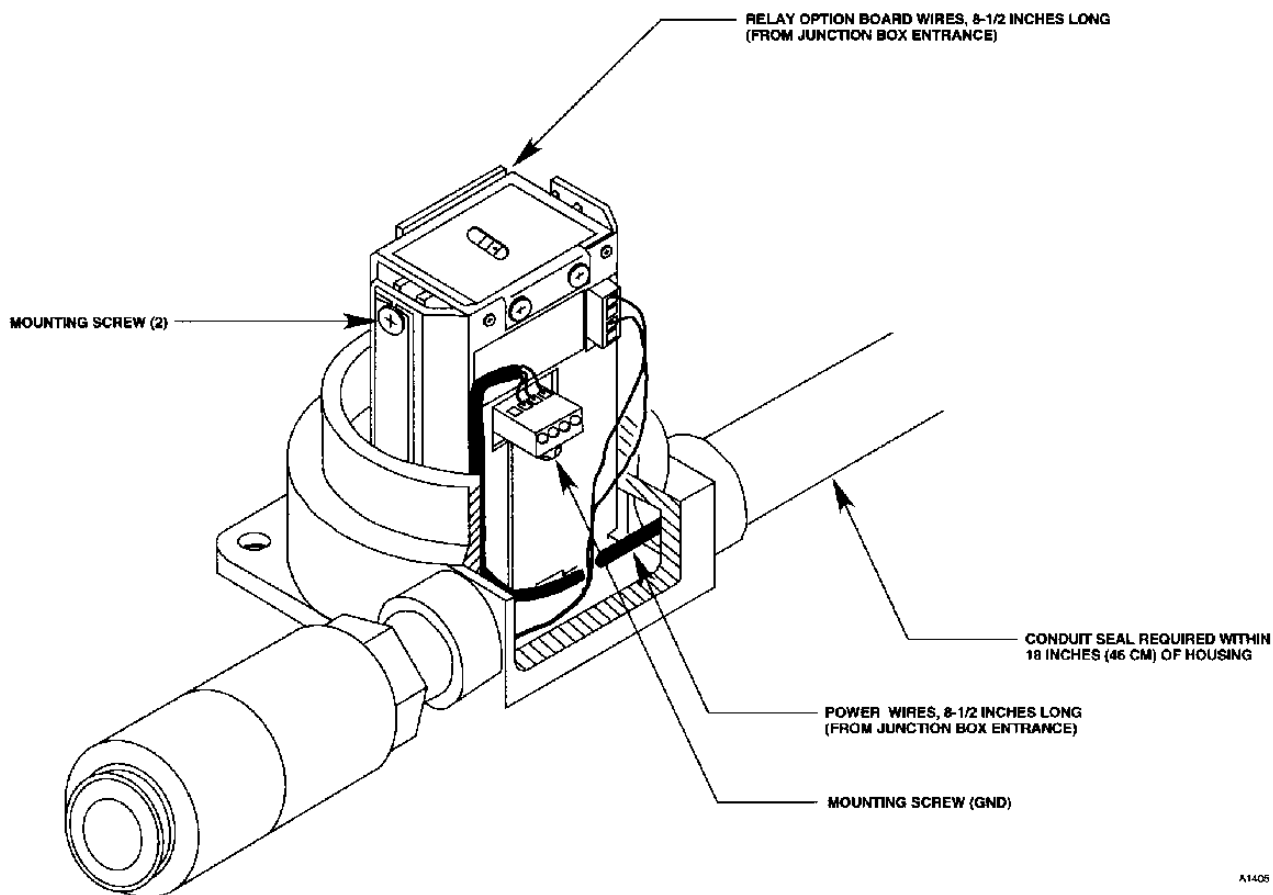
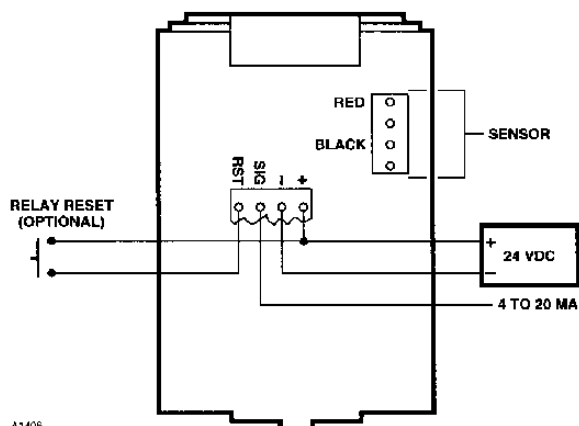

Figure 5—Transmitter Module Installation
Figure 6—Transmitter Wiring
5. Loosen the three mounting screws on the transmitter module, then install the module in the mounting bracket inside the enclosure and tighten the screws. See Figure 5.
6. Attach the sensor to the conduit entry on the transmitter enclosure as shown in Figure 5. The sensor should be tight to ensure an explosion-proof installation, however, do **not** overtighten. Route the wires as shown. Attach the sensor plug to the transmitter module.
7. Connect the power and current output leadwires to the screw terminals on the plug that is provided. Proper wire locations are indicated on the sideplate of the transmitter and also in Figure 6. See Figure 5 for proper wire length and routing. Connect the shield to earth ground at the power supply. Under normal conditions, the other end of the shield should not be connected at the
10. If the optional relay board is being installed, a remotely located relay reset switch can be wired as shown in Figure 6. (The relays can also be reset using the calibration meter.) The transmitter resets the relays when the switch changes from open to closed, therefore, the switch can have either normally open or normally closed contacts. The switch must be held for approximately one second before the transmitter resets the relays.